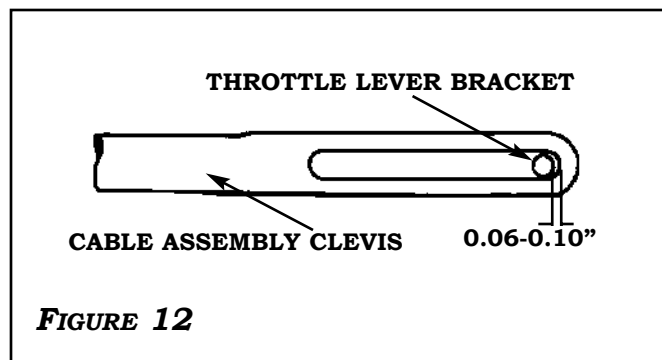

FIGURE 12
5. AFTER ASSEMBLY IS SECURED, MAKE SURE THE **CABLE ASSEMBLY** IS NOT HOLDING THE THROTTLE OPEN IN ANY WAY. THERE SHOULD BE **0.06-0.10”** SLACK BETWEEN THE **CRUISE CONTROL CABLE CLEVIS** AND THE **THROTTLE LEVER BRACKET PIN**. **FIGURE 12**